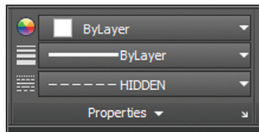

FIGURE 6.24 The Properties panel settings affect all the objects you create.
1. Open the Linetype drop-down menu on the Properties panel and select *Hidden* (see Figure 6.24). Draw a line of arbitrary length anywhere on the canvas.